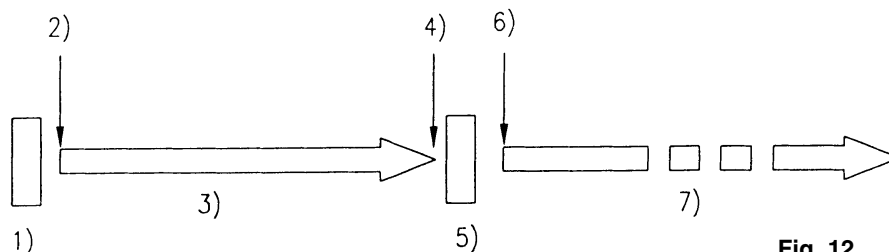

Fig. 12
- Figure 12 shows the relationship between the play and pause.